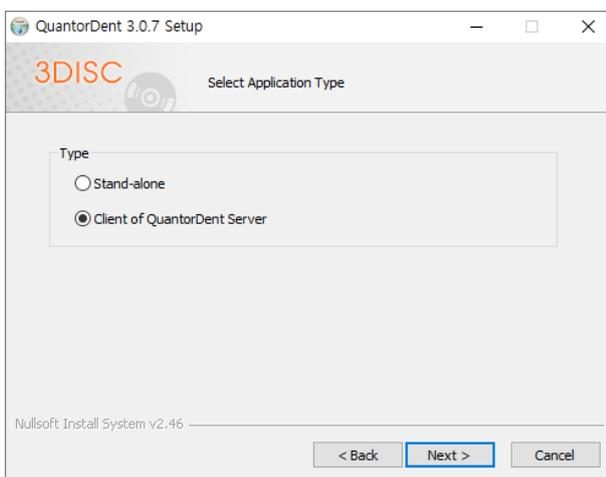

Figure 2.13 Application Type Dialog Box
7. As shown in Figure 2.13, select the application type and click the "Next" button.